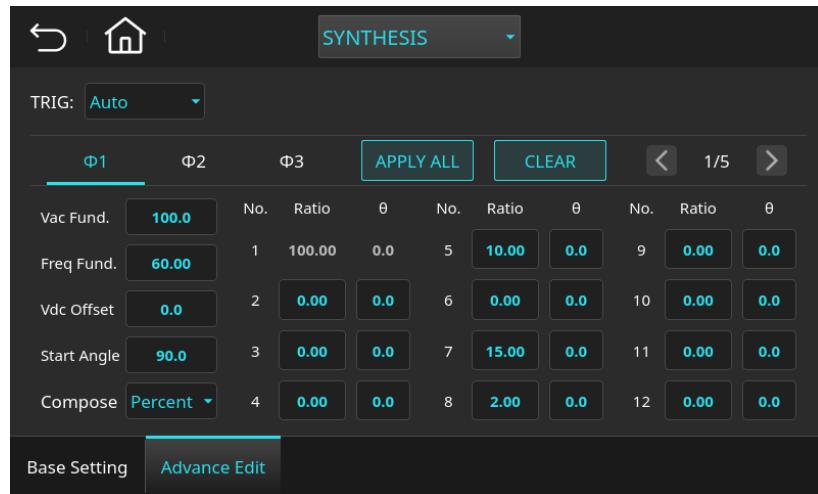

Figure 5-27 Synthesis Mode Setting Page (Example Parameters for Phase 1)
2. Tap the Compose dropdown menu **Voltage** on the screen and select “Percent”. Edit the parameters as shown in Figure 5-27.